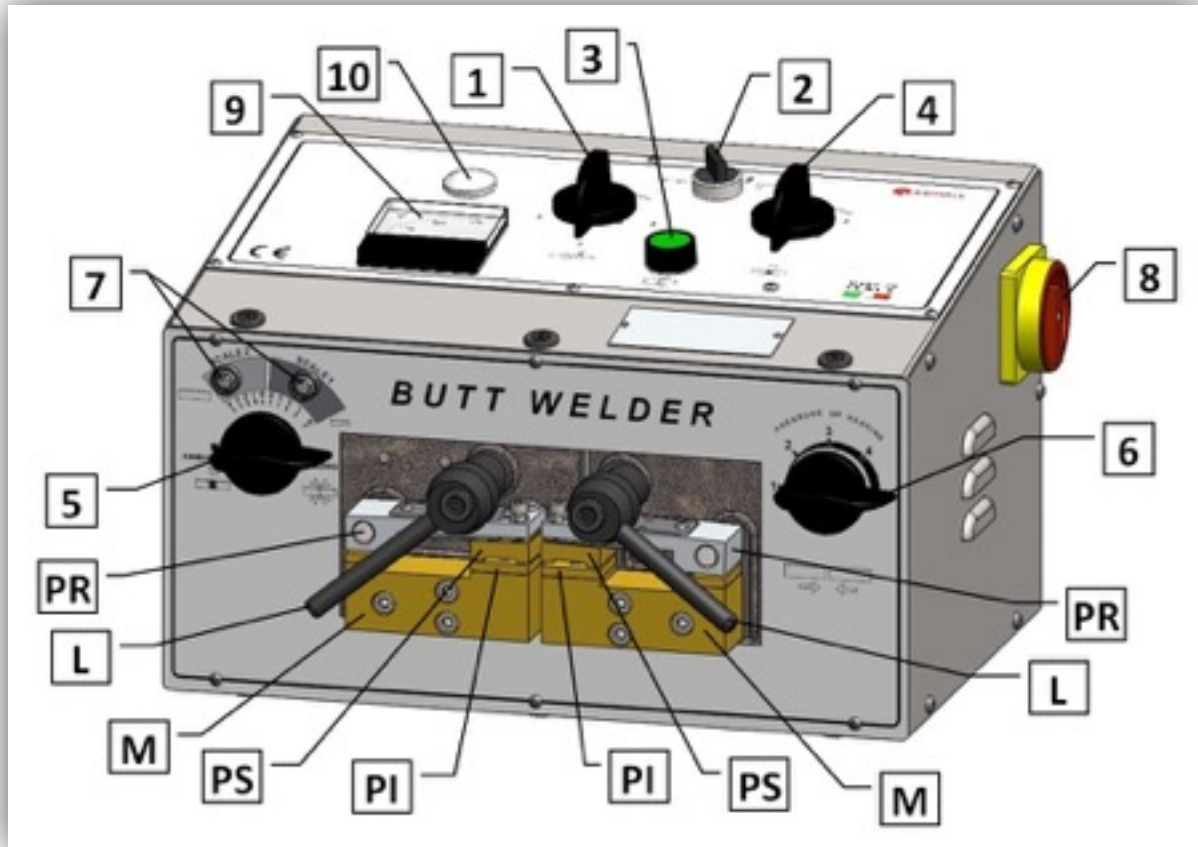

Figure 1
To switch the welding machine on turn the main power switch clockwise (Switch 8, Figure 1).
Make sure the machine is on checking if the power on/off indicator light on the control panel (indicator light 10, Figure 1) is on.
- i) **Select the welding scale using the scale selectors switch: 1 or 2 (selector switch 2, Figure 1)**
Check your choice by observing which of the lights over the heading paths is on (indicator lights 7, Figure 1). Select scale 1 for thin and narrow blades; select scale 2 for bigger blades.
- ii) Set the heading pressure from within the range 1 to 5 (rotary knob 6, Figure 1)
- iii) Adjust the heading path (rotary knob 5, Figure 1)
- iv) Set the welding current from within the range 1 to 4 (rotary knob 1 Figure 1)
Open the clamps by lifting levers **L** (Figure 1). Then insert the two band ends under pressers **PR** (Figure 1) with the teeth turned towards the machine, as shown in the picture below.
Align the bands longitudinally against the back plate and match the two band ends midway. The band ends shall match perfectly. Block them using clamping levers **L** (Figure 1).
Turn the heading path rotary knob (rotary knob 5, Figure 1) back to the 'WELDING' position.